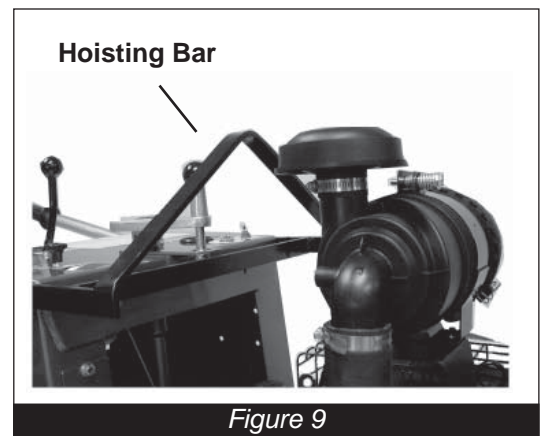

Figure 9
- If hoisting this machine, use the built in hoisting bar. (Figure 9) Use proper hoisting equipment and techniques.